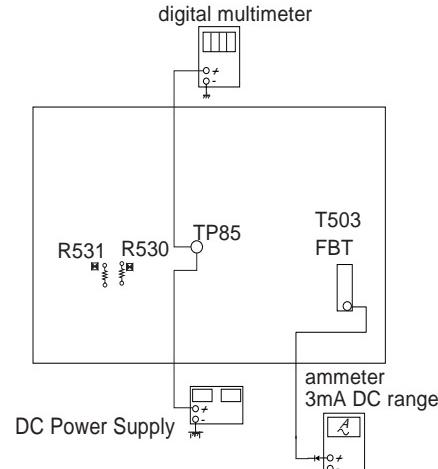

Figure 1
1. Connect the current meter between Pin 11 of the FBT (T503) and the PWB land where Pin 11 would normally attach. (See Figure 1).
4. Connect the digital voltmeter and the DC power supply to TP85 and ground. (See Figure 1 above).